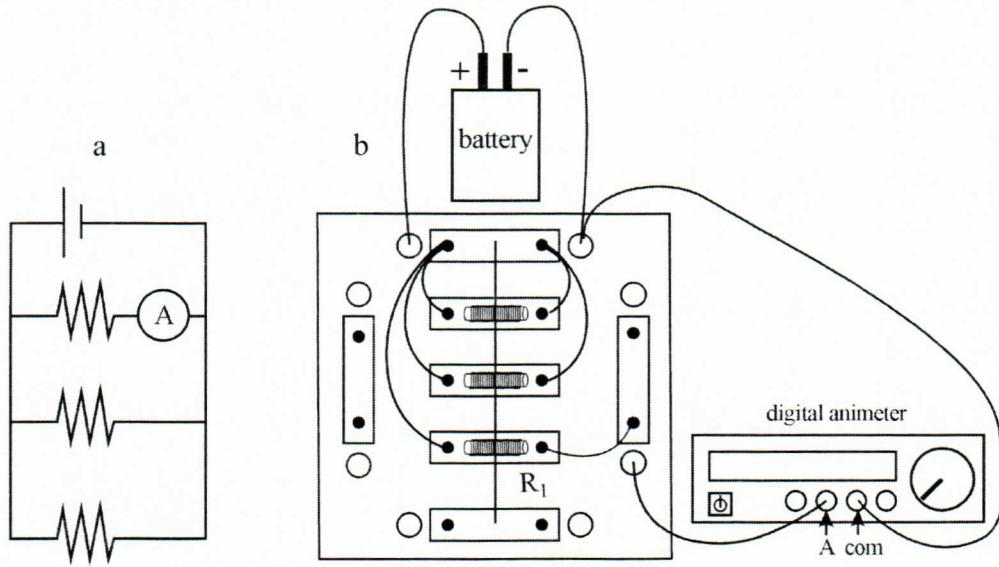

Figure 5.5 Measuring the currents over resistors in parallel. Figure 5.5a uses a standard circuit diagram. Figure 5.5b is the real-life schematic.
- Disconnect one of the battery terminals. Remove the voltmeter and ammeter. Move the ammeter to measure the current flowing through R_1 as shown in figure 5.5. Repeat for each resistor in parallel. Are the currents measured consistent with theory?